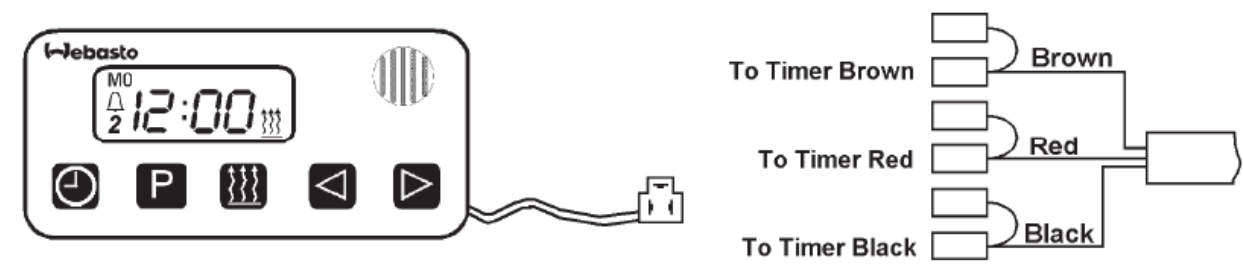

Fig. 409: Optional 7-Day Digital Timer
- 6. Connect the terminals of the harness to the timer. See figure 409 below and wiring diagram figure 411 for reference.